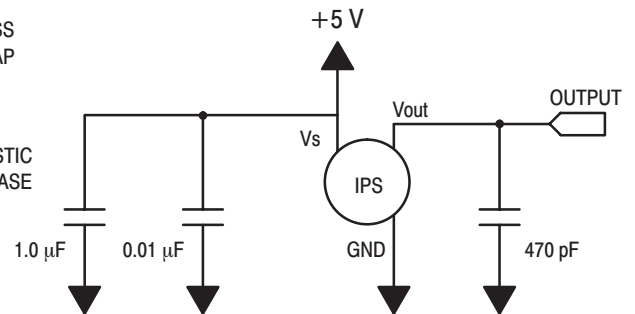

Figure 3. Recommended power supply decoupling and output filtering.
**OPERATING CHARACTERISTICS** (VS = 5.0 Vdc, TA = 25°C unless otherwise noted, P1 > P2. Decoupling circuit shown in Figure 3 required to meet specification.)
Figure 3 shows the recommended decoupling circuit for interfacing the integrated sensor to the A/D input of a microprocessor or microcontroller. Proper decoupling of the power supply is recommended.